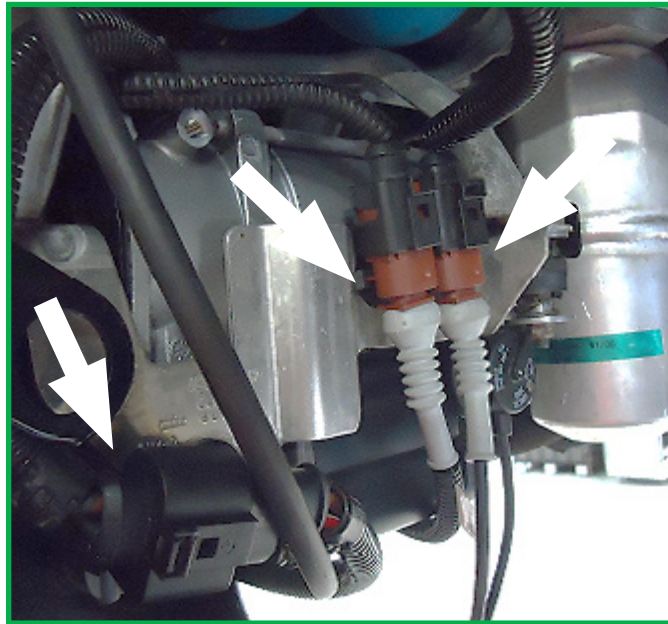

FIGURE 9
7. Locate and disconnect all three electrical plugs from the compressor. (Figure 9)